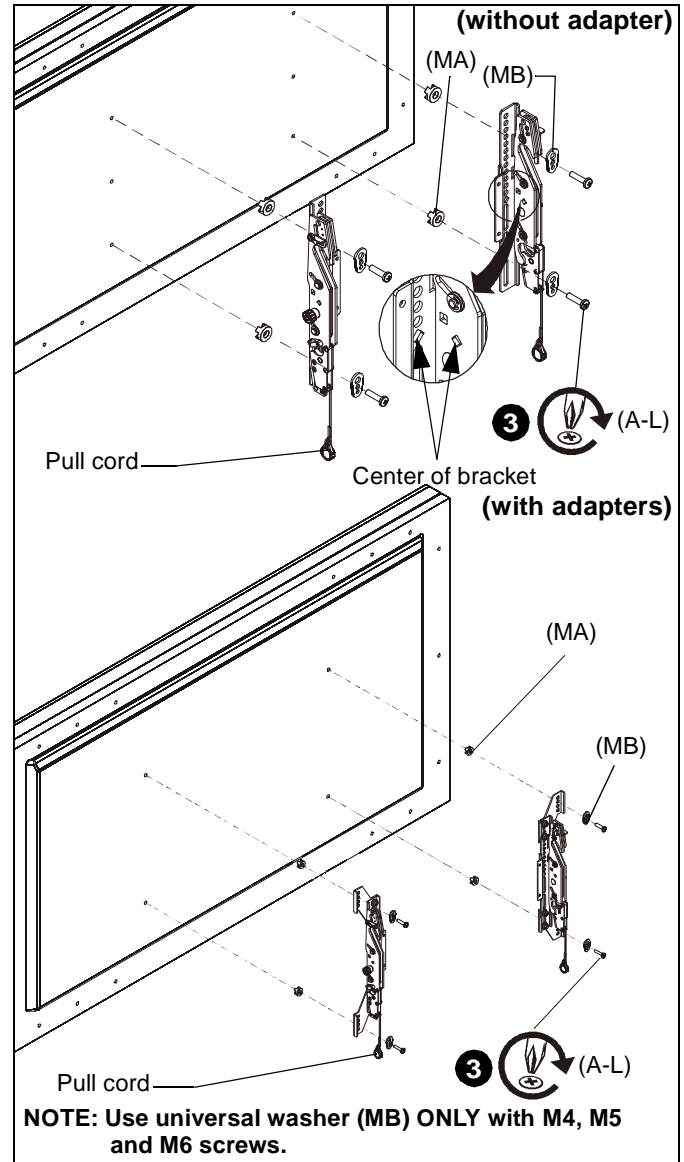

Figure 6
2. Align the center of the brackets (Y and Z) with center of screen. (See Figure 6)
3. Select correct screws, nesting spacers (if necessary) and universal washers (if required) from the hardware bag (A-L) and attach brackets to back of screen. (See Figure 6)